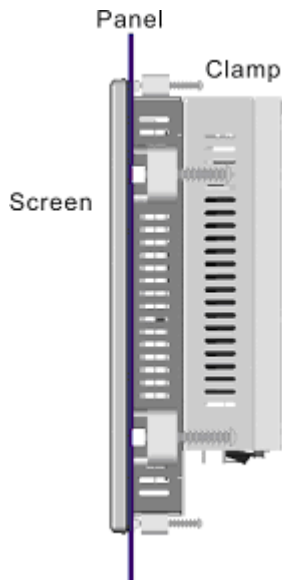

Figure 4-19: Tighten the Panel Mounting Clamp Screws
Step 5: Tighten the screws that pass through the panel mounting clamps until the plastic caps at the front of all the screws are firmly secured to the panel (**Figure 4-19**).